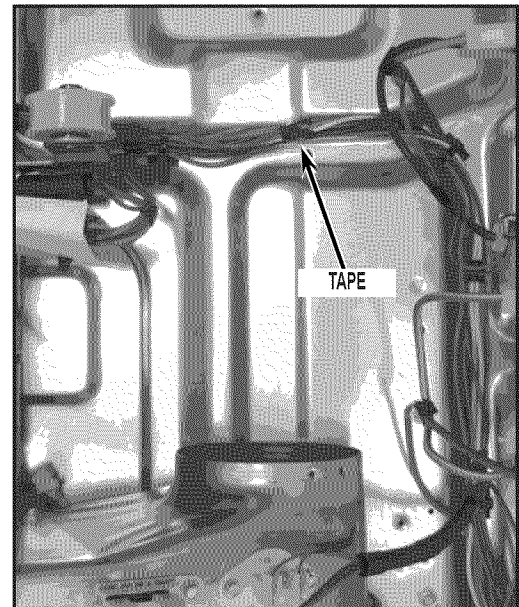

FIGURE 24
24. Verify if electrical tape is located on main wiring harness as shown in *Figure 24*. If not, wrap electrical tape as shown around harness wire lead to prevent possible wire pinching.